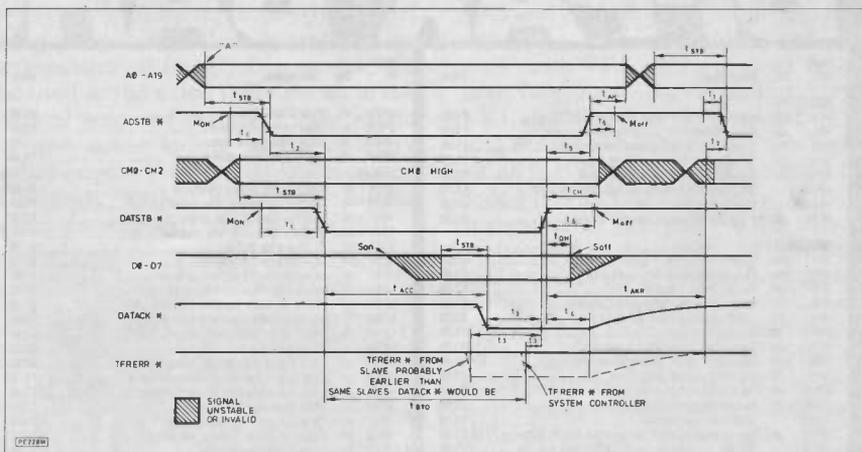

Fig. 2. The Read sequence
(1) The Read Sequence (see Fig. 2). This basic form covers memory reads, I/O reads and bus vector fetches. These three read operations differ only in the number of address lines which convey significant information and the levels of command lines CM1 and CM2 which define the slave function addressed.
If Fig. 2 looks a bit daunting, fear not. All the time periods with labels containing numeric subscripts have a common feature. That is  $t_1, t_2, \dots, t_n$  all have a minimum length of 0nS and no defined maximum length. They are there solely to indicate the sequential order of events. They indicate that the two events that they link can happen simultaneously, or the right-hand event can happen at any time after the left-hand event, but that the right-hand event must not be allowed to happen before the left-
hand event (the signal levels pictured in Fig. 2 are those to be found by attaching high impedance, low capacitance probes to the relevant lines of the backplane). Thus when testing a new board design one should ideally test to make sure that the correct signal sequences are received at each other slot in the system. By specifying the signal sequences in this way it is left up to the board designer to ensure that the design meets the standard, regardless of the particular characteristics of the bus drivers and internal timing logic that are employed.